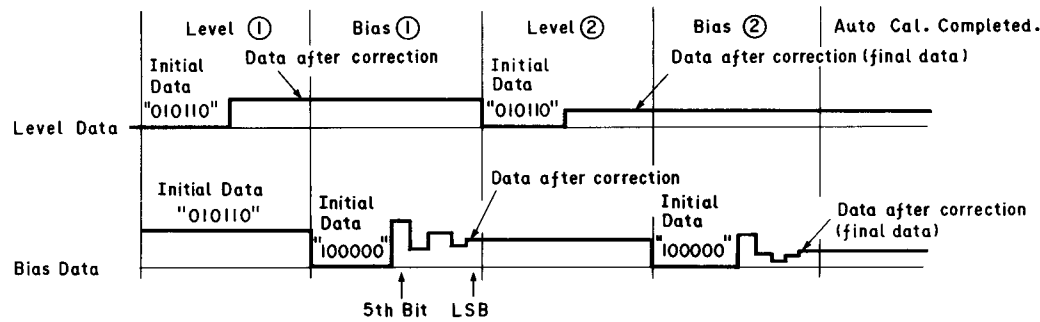

Fig. 5.21 Change of Level/Bias Data
- Level calibration and bias calibration are executed alternately and twice each. During this process, the data set in IC608's RAM change as shown in Fig. 5.21.